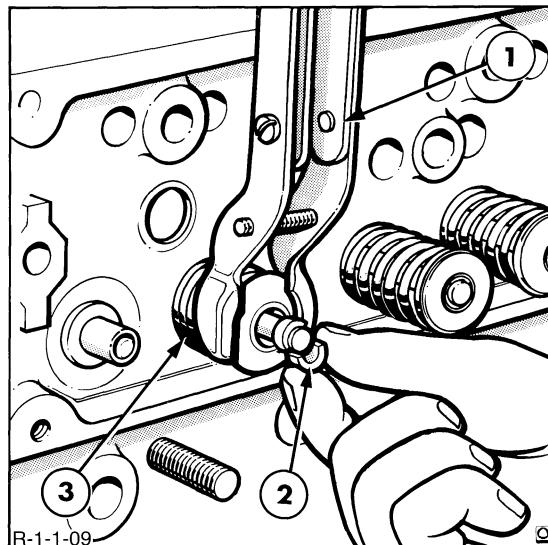
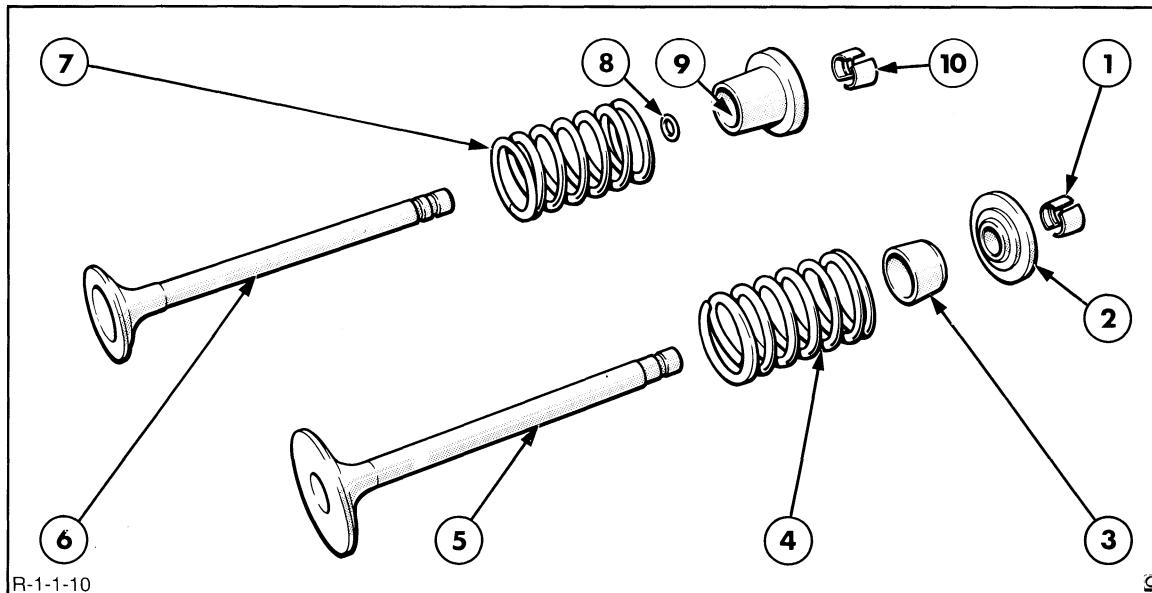

Figure 9
Figure 10
2. Using a valve spring compressor, Figure 9 remove the retainer locks, spring retainers/rotators, springs and seals from each valve, Figure 10.